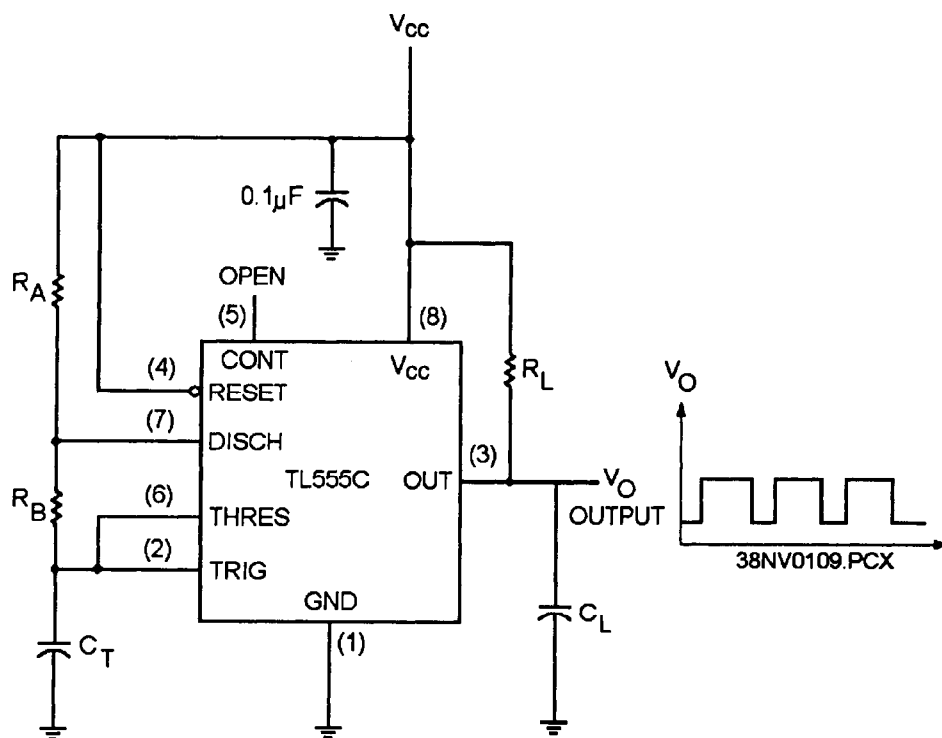

Figure 4-34.—Example of a timer circuit for astable operation.
**TIMERS.**— Timers use a basic comparator circuit to drive a flip-flop. They can be used to produce a circuit known as an astable multivibrator, which is used to generate digital pulses of known widths and to provide known time delays in digital circuits. These timer circuits are used in the computer's timing and control section. See figure 4-34.